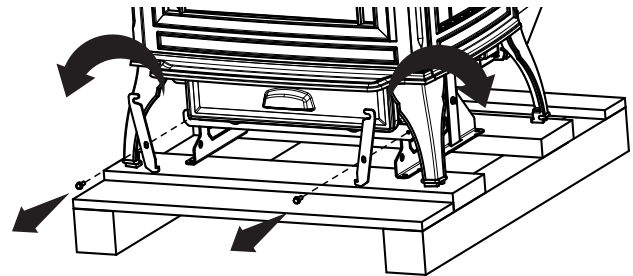

Figure 6.1
2. Using 3/8 socket or wrench remove both front bolts from pallet mount brackets. Front pallet mount brackets will slide outwards away from appliance (**Figure 6.1**).